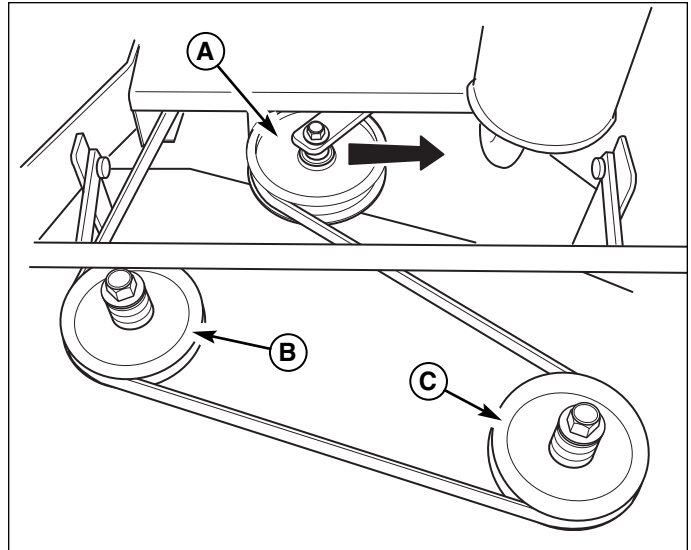

Figure 16. Mower Deck Drive Belt
3. Push the idler arm towards the left-hand side of the machine to release the spring tension on the drive belt. (See Figure 16)
4. Slide the drive belt over the edge of the idler pulley (A). Release the idler arm.
6. Install the drive belt on the spindle pulleys and the PTO clutch pulley. Again, push the idler arm towards the left-hand side of the machine and install the belt onto the idler pulley (A).